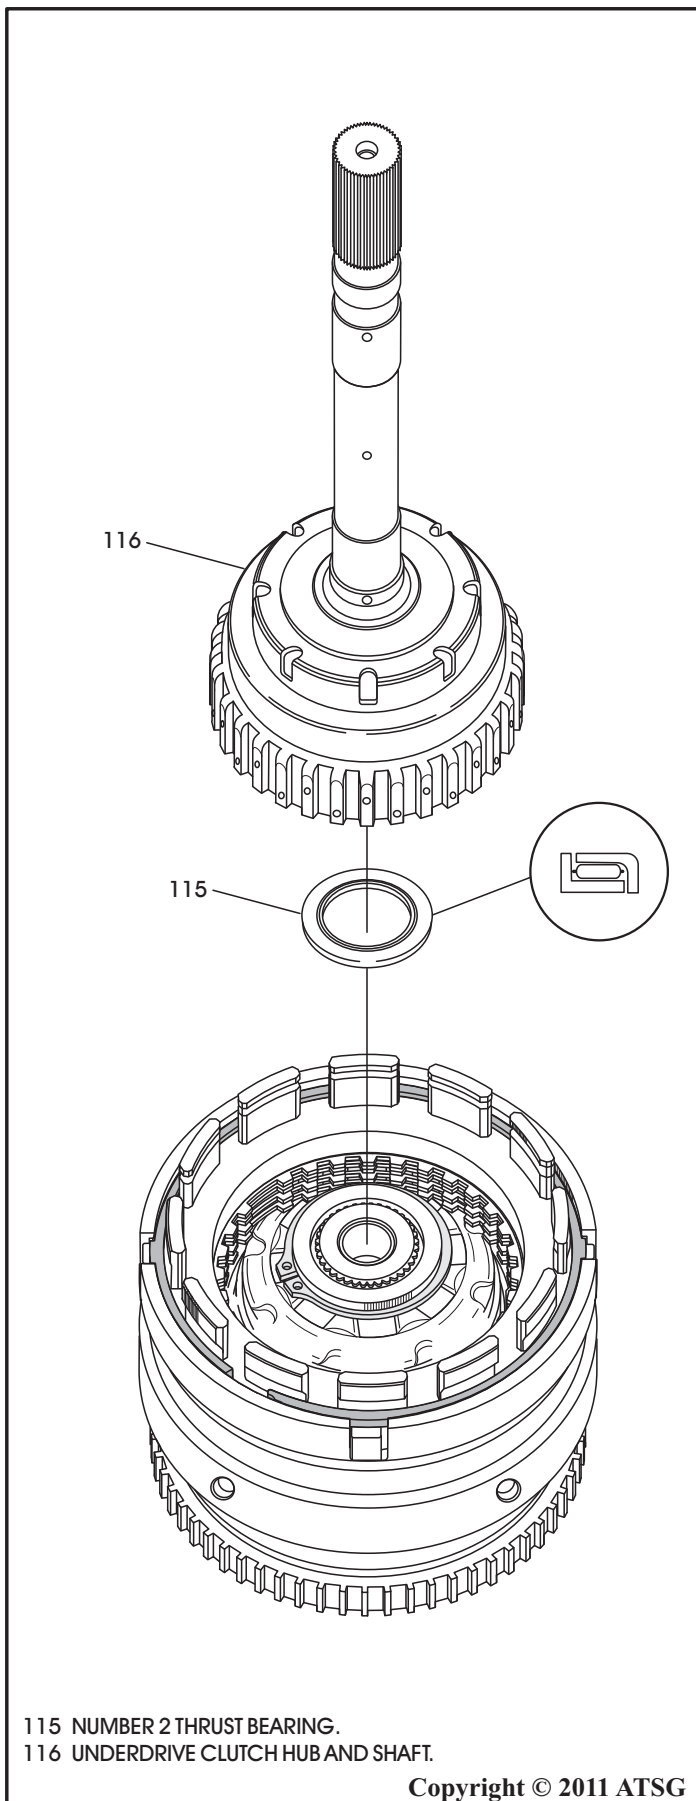

Figure 104
42. Install the number 2 thrust bearing into the underdrive clutch hub and shaft, in direction shown in Figure 104, and retain with TransJel®.